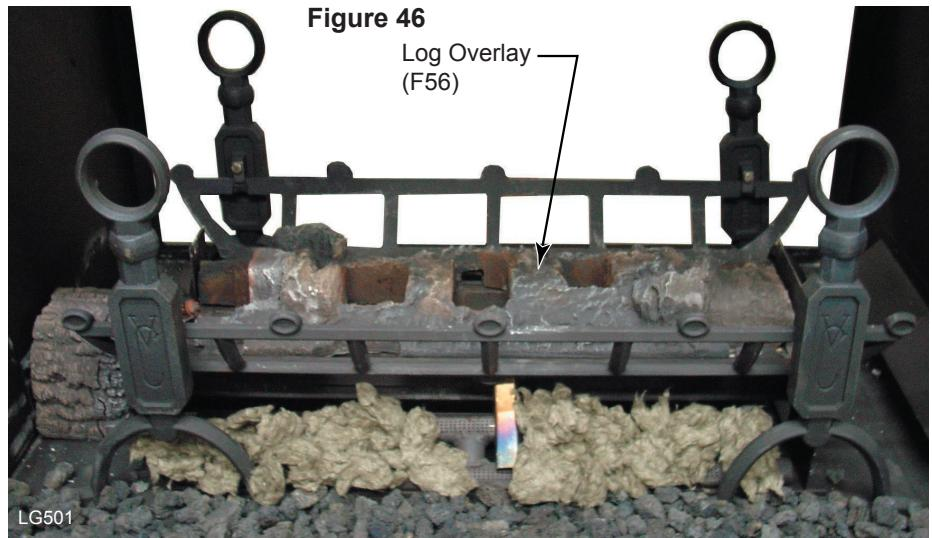

Figure 46
6. Position the log burner overlay. (Fig. 46) The overlay is very fragile and must be handled with extra care. Hold the overlay with the flat surface facing down. The notched corners of the overlay should be on the side of the pilot. Set the overlay on top of the burner housing and align it right to left over the burner housing. Make sure the overlay fits between the two (2) fettles.